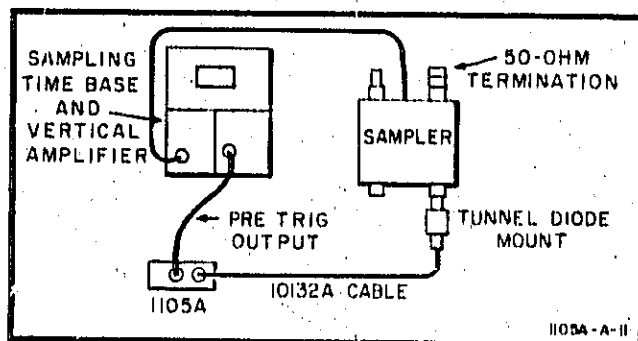

Figure 6. Output Test Setup
28. Connect the Model 1105A and applicable Tunnel Diode Mount to the test equipment as shown in Figure 6. Then perform the following procedure.
32. The setting of bias centering adjust potentiometer R7 is the only Model 1105A/Tunnel Diode Mount adjustment required. To make this adjustment, connect the equipment as shown in Figure 6 and perform the following procedure.